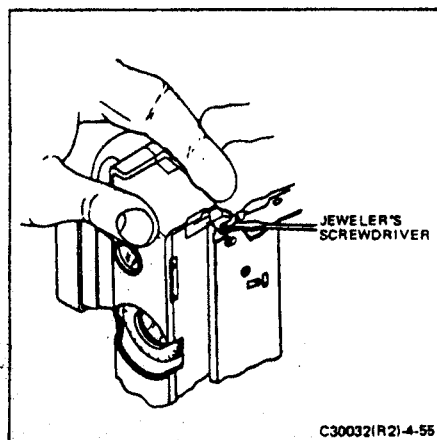

FIGURE 4-55 RELEASING SHUTTER MOUNT HINGE BRACKETS
*NOTE: On early cameras, the shutter hinge bracket is held to the bottom plate with hinge pins. Release the bracket as directed in step 3 below (Figure 4-55). On later cameras, the bracket is riveted in place. Remove the rivets using Special Tool #11877.*
- Using the blade of a jeweler's screwdriver, spring the shutter hinge bracket on each side just enough to release the pins. See Figure 4-55. This will release the shutter hinge bracket from the bottom plate.
- Release the shutter hinge bracket from the bottom plate by springing the bracket free using a jeweler's screwdriver as shown in Figure 4-55.